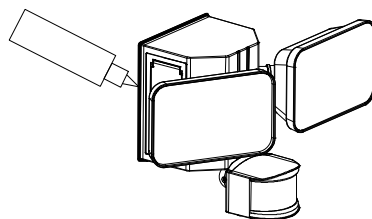

Figure 5
5. For outside use, apply a sealant/caulking (not included) to seal between the wall sconce and your wall. This step is not required for indoor use. (See Figure 5)